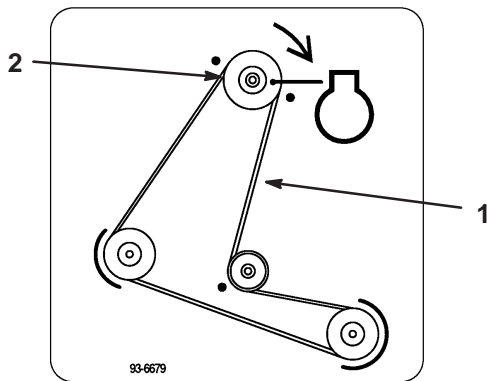

Figure 6
- Pull on idler pulley to relax belt tension and install mower drive belt onto the top engine drive pulley groove (Fig. 6).